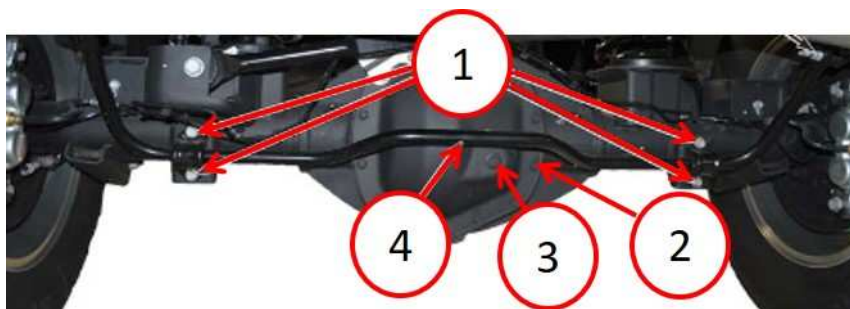

Fig. 1
2. Remove the rear stabilizer bar bolts (Fig. 1) from differential housing brackets. Position stabilizer bar out of the way.
4. Remove lubricant fill hole bolt (Fig. 1) from the differential housing cover.
5. Remove the 14 differential cover bolts (Fig. 1), housing cover and drain the lubricant from the axle housing.
7. Apply Mopar approved thread locker to the differential housing bolts and install the housing cover **reusing the housing cover gasket** with the 14 bolts (Fig. 1). Torque the bolts to 39 N·m (29 Ft. Lbs).
9. Install the fill hole bolt (Fig. 1) to the rear differential cover. Torque the cover bolt to 32 N·m (24 Ft. Lbs).
11. Reposition the rear stabilizer and install the stabilizer bar bolts (Fig. 1) on the differential housing brackets. Torque the bolts to 50 N·m (37 Ft. Lbs).